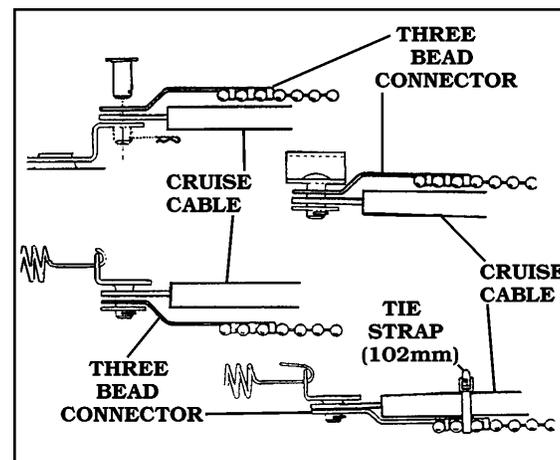

Figure 18
4. The **THREE BEAD CONNECTOR** may need to be bent so that it clears the throttle cable. **Figure 18** Use the **TIE STRAP (102MM)** to hold the **THREE BEAD CONNECTOR** to the sleeve of the throttle cable. **Figure 18**